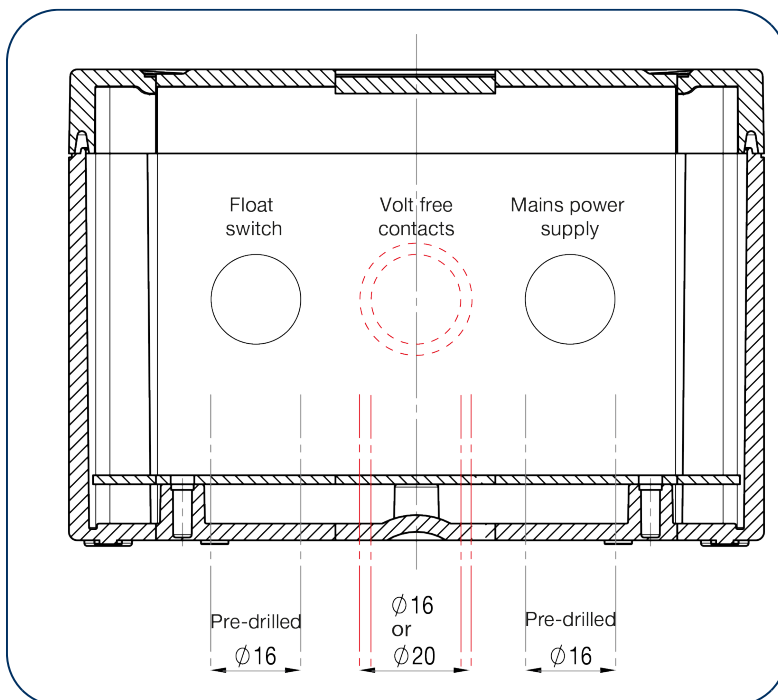

Fig.1 Drilling the mounting panel
- For the volt free contacts, you will need to drill the appropriate diameter hole as shown in fig.1 to add the M16 or M20 cable gland. The cable gland required would depend on the diameter of signaling cable used.
1. Loosen the float switch cable gland located on the underside of the AquaSafe Alarm panel, as shown in fig.1.